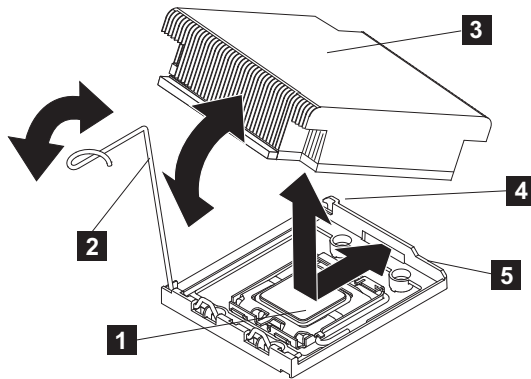

Figure 307. Installing the heat sink on the SAN Volume Controller 2145-DH8 microprocessor
7. Align the heat sink on top of the microprocessor, as shown in Figure 307.